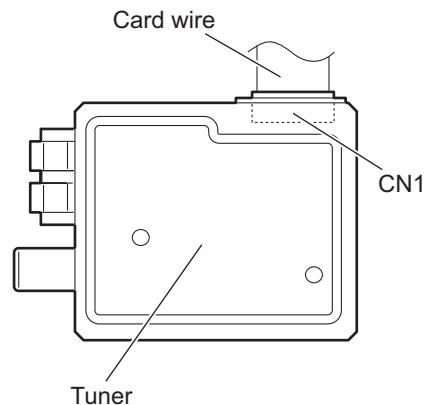

Fig.11
- (2) Disconnect the card wire from the connector CN1 on the tuner. (See Fig.11.)